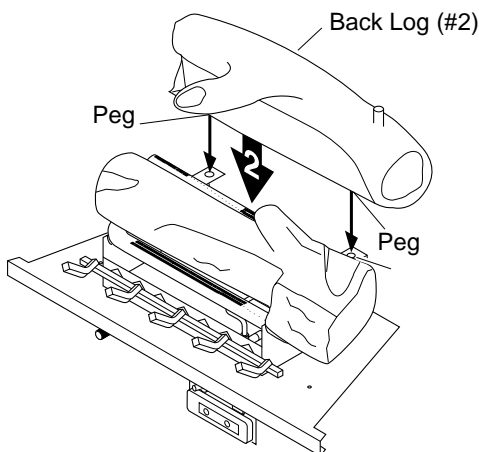

Figure 45 - Installing Back Log (#2)
2. Locate pegs on the bottom of back log (#2). Slide these pegs into the holes in the grate base behind the burner (see Figure 45).